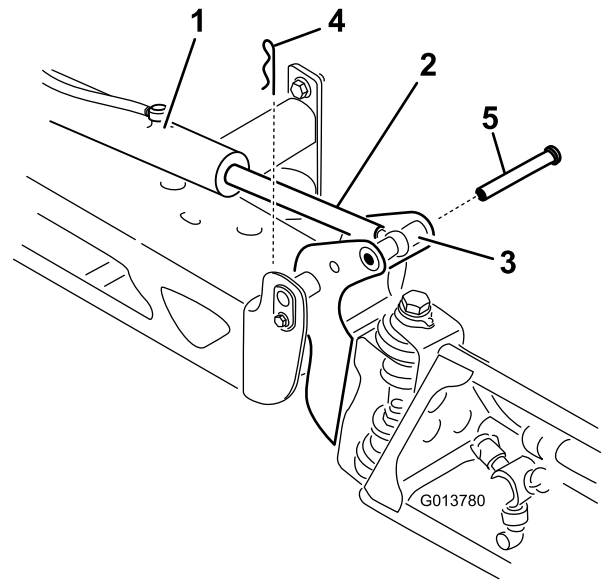

Figure 74
2. Remove the hairpin from the clevis pin (Figure 74).
3. Lift up on the section, remove the clevis pin, and slowly lower the section to the ground (Figure 74).
7. While supporting the spray section, insert the clevis pin through both boom pivot and actuator rod (Figure 74).